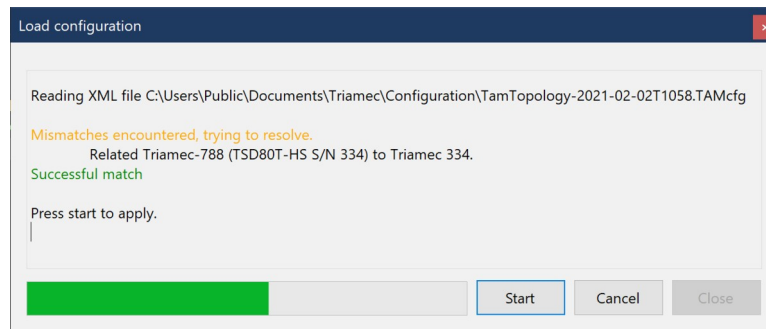

Figure 22: Configuration download progress window
3. If issues are detected with the configuration, you will need to manually **Start** the process after having reviewed the warnings carefully (Figure 22).